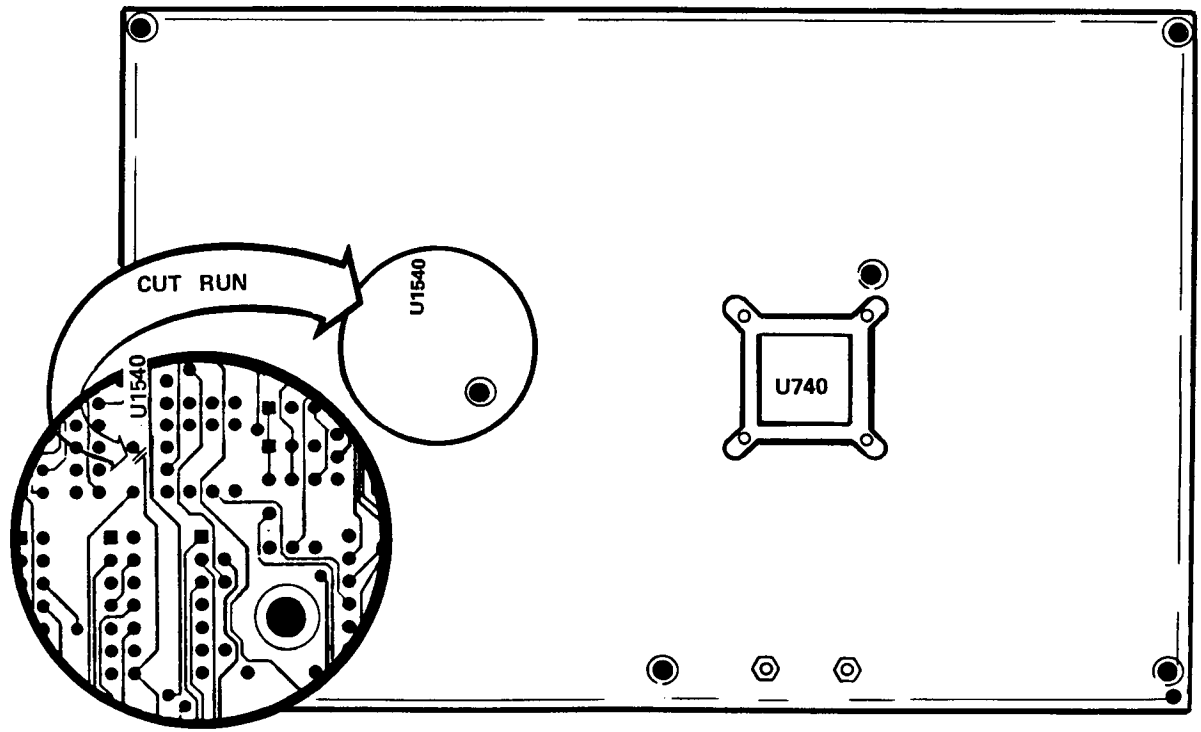

Figure 10. - Partial. (back) solder side Acquisition ckt bd.
- ( ) 19. On the back (solder) side of the circuit board cut and remove a section of the circuit board run connecting U1544, pin 8 to R1543, pin 12, located between pins 6 and 11 of U1540, refer to Figure 10.